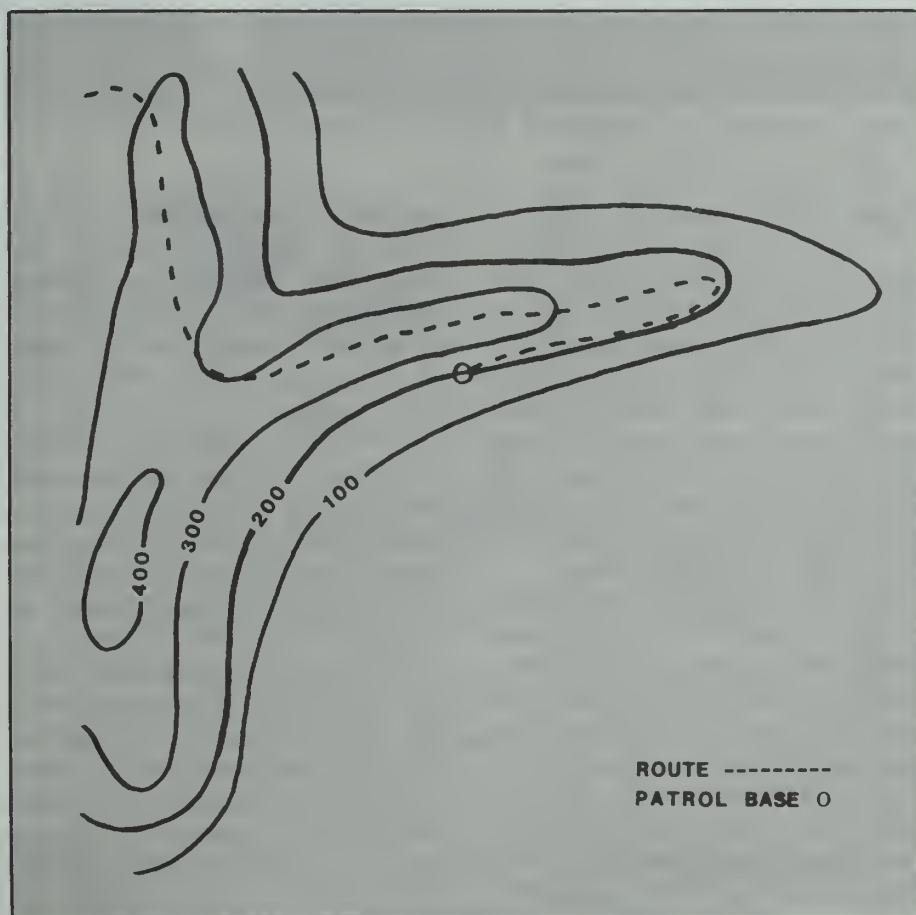

Figure 3
- At a certain point, you want to leave a ridge and proceed at a certain elevation for a few hundred meters to establish a patrol base. Although this is an illusory goal for some novice navigators, with an altimeter, it is easy to do (Figure 3).